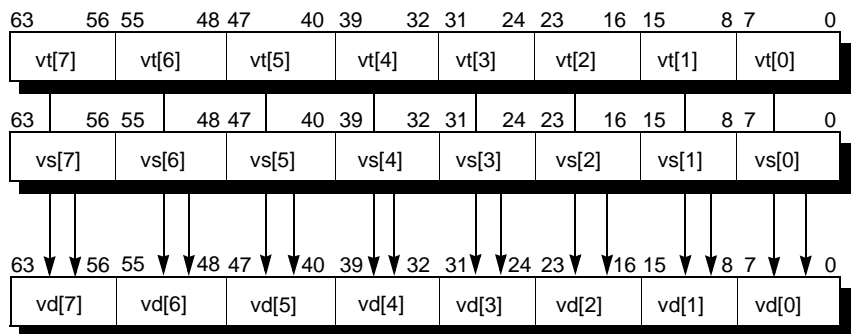

Figure 19-1 Vector-Vector Operation
- **Vector-Vector.** Each element of source vector *vs* is operated against the corresponding elements of source vector *vt* to produce destination vector *vd*, as shown in Figure 19-1.